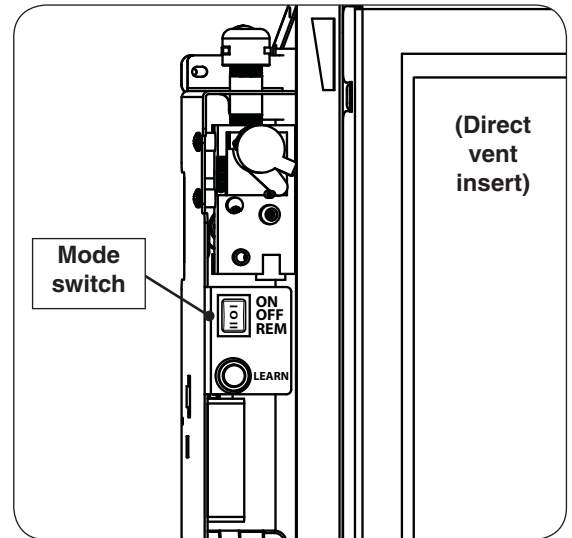
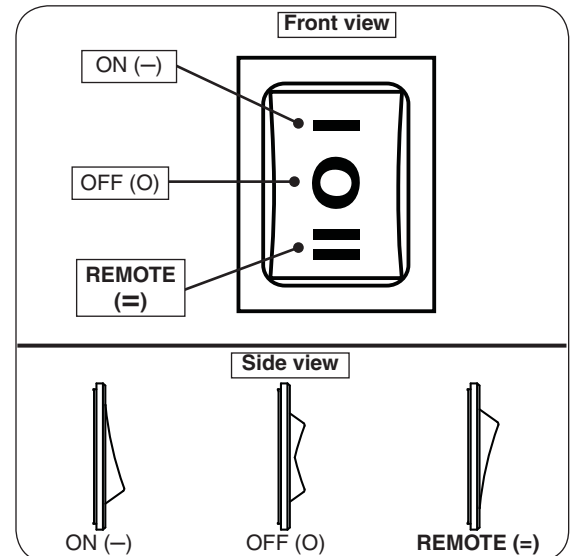

Fig. 39-1 Control box (left side of unit)
Fig. 39-2 Mode switch detail
1. Open the surround door. Locate the 3-position mode switch on the control box (see Fig. 39-1). Press the switch down to the **REMOTE (=)** position (see Fig. 39-2). The system will beep.